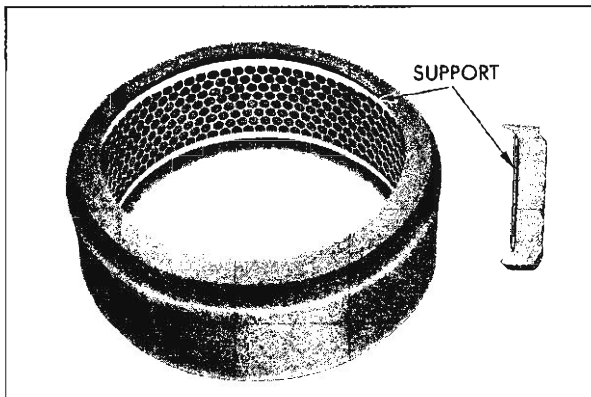

Fig. 18—Polyurethane Support
6. Install element on screen support (fig. 18).